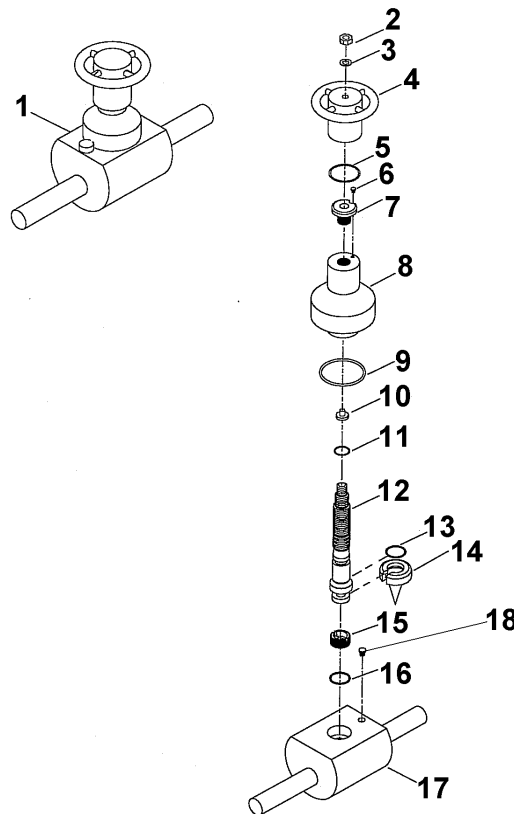

Figure 1. Reject Control Needle Valve.
1. Remove nut (2) and washer (3) from handle (4). See Figure 1.
2. Remove capscrew (18) from body (17) on 0.5-inch needle valve (1). See Figure 1.
3. Use strap wrench to remove bonnet (8) from body (17).
4. Remove O-ring (9) from bonnet (8).
5. Remove O-ring (5) from base of handle (4). Discard O-ring.
6. Remove capscrew (6) from stem nut (7).
7. Remove stem nut (7) from bonnet (8).
8. Remove needle (14) from stem (12) and body (17).
9. Remove stem (12) from bonnet (8).
10. Remove backup ring (10) and O-ring (11) from stem (12).
11. Remove seat (15) from body (17) if necessary with a seat removal tool.
12. Remove O-ring (16) from seat (15) if necessary.